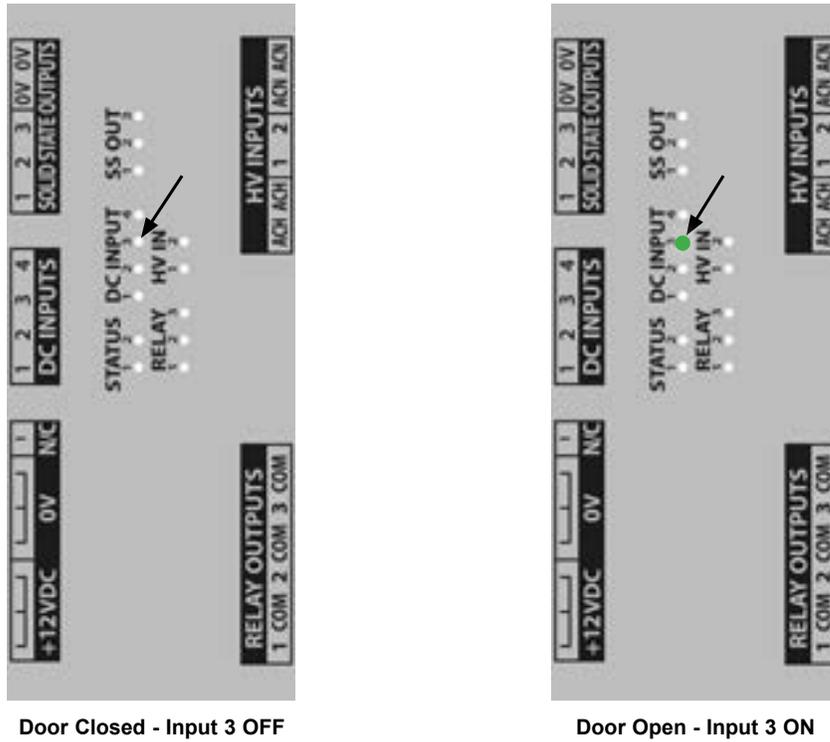

Figure 38
- Small Terminal Board: DC Input #3 OFF (Figure 38)
- Small Terminal Board: DC Input #3 ON (Figure 38)
2. Secure the sensor cable following all applicable local and national codes. See suggested J-Box placement (**E**) near the sensor(s). Reference **Figure 38**.